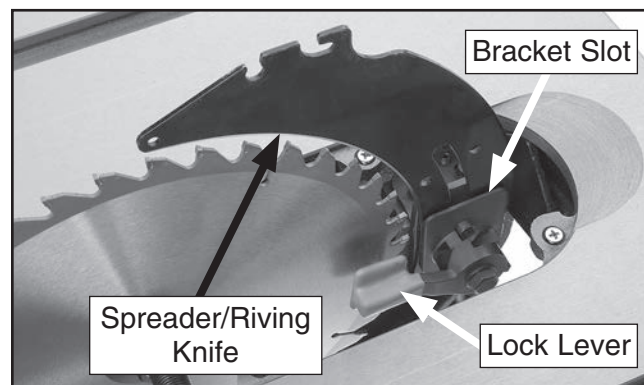

Figure 46. Lock lever used to secure spreader/riving knife.
4. Insert lower set of holes on spreader/riving knife into bracket slot, and tighten lock lever to secure spreader (see **Figure 46**).